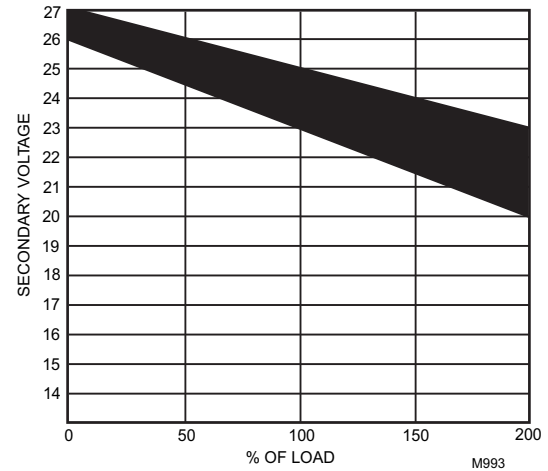

Fig. 10. NEMA Class 2 transformer voltage output limits.
This means that four volts are going to be lost between the transformer and the controller. To assure the controller receives at least 20 volts, the transformer must output more than 24 volts. Because all transformer output voltage levels depend on the size of the connected load, a larger transformer outputs a higher voltage than a smaller one for a given load. Fig. 10 shows this voltage load dependence.
In the preceding I x R loss example, even though the controller load is only 37 VA, a standard 40 VA transformer is not sufficient due to the line-loss. Looking at Fig. 10, a 40 VA transformer is just under 100 percent loaded (for the 37 VA controller) and has a secondary voltage of 22.9 volts. (Use the lower edge of the shaded zone in Fig. 10 that represents the worst case conditions.) When the I x R loss of four volts is subtracted, only 18.9 volts reaches the controller. This is not enough voltage for proper operation.
1. Use a larger transformer. For example, if an 80 VA model is used, an output of 24.4 volts, minus the four volt line-loss, supplies 20.4V to the controller (see Fig. 10). Although acceptable, the four-volt line-loss in this example is higher than recommended.
To meet the National Electrical Manufacturers Association (NEMA) standards, a transformer must stay within the NEMA limits. The chart in Fig. 10 shows the required limits at various loads.